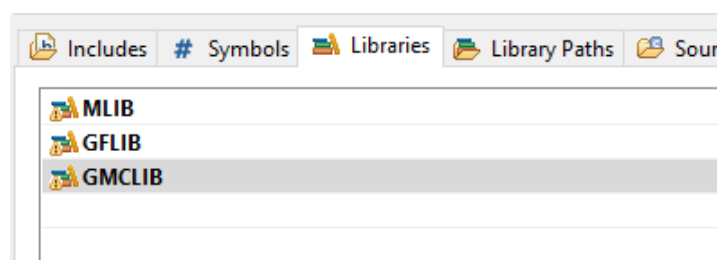

Figure 1-11. Libraries
11. After adding the library paths, add the library files. Click the Libraries tab. See Figure 1-11.
18. Click OK, and you will see the libraries added in the list. See Figure 1-11.